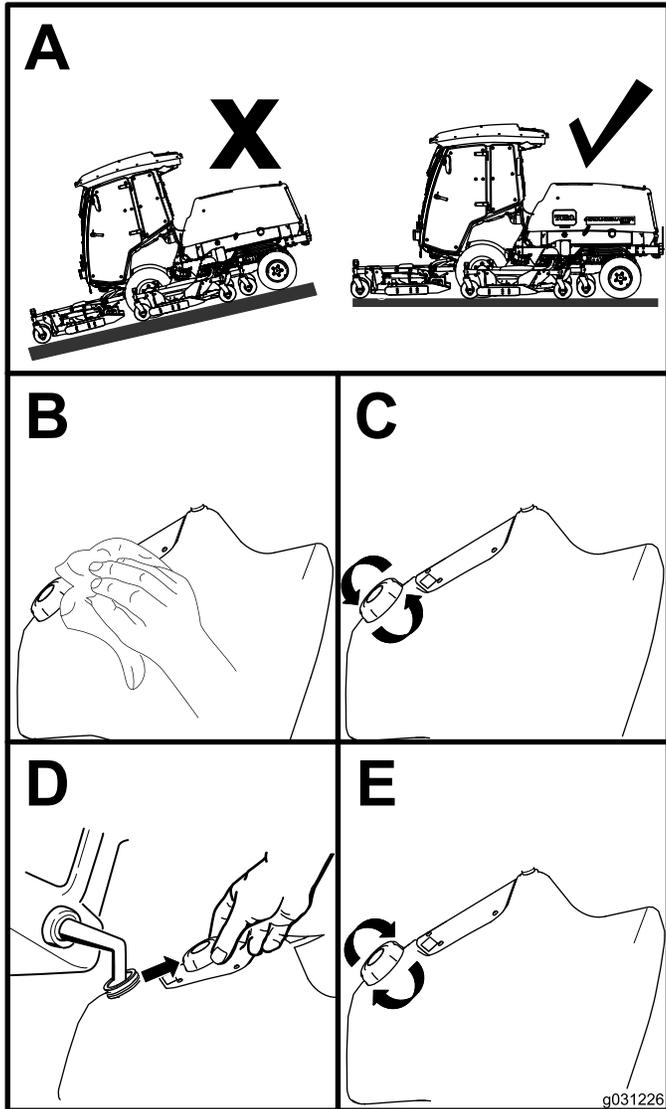

Figure 31
1. Park the machine on a level surface (Figure 31).